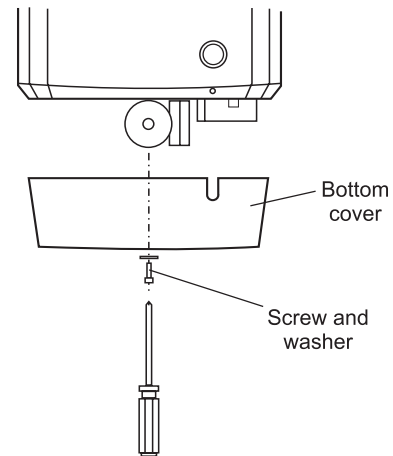

Fig. 17
1. Gain access to the electrical control box of the solar cylinder by removing the one screw and washer securing the bottom cover and remove the cover. See Fig. 17. Remove the front cover of the cylinder by pulling it forwards. Remove the screws securing the front of the control box to provide access to the terminals on the control board.